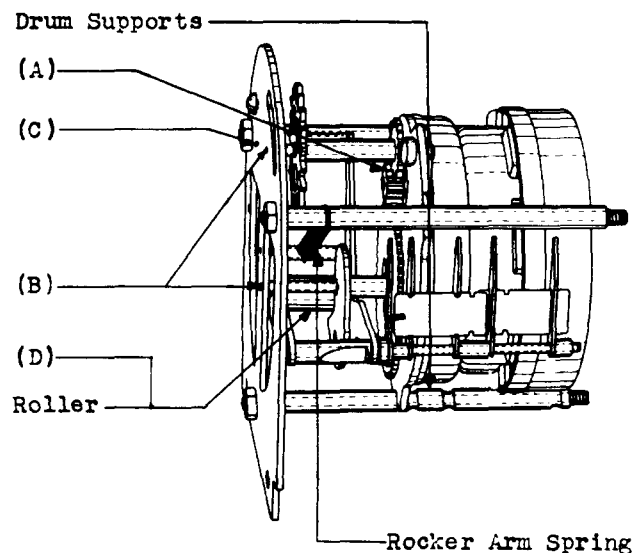

Fig. 3 – KS-8263 Clock Partially Disassembled
- (1) Fig. 3(A) — Motor Pinion
- (2) Fig. 3(B) — Gear Shaft Bearings
- (3) Fig. 3(C) — Rocker Arm Bearings
- (4) Fig. 3(D) — Roller Bearings